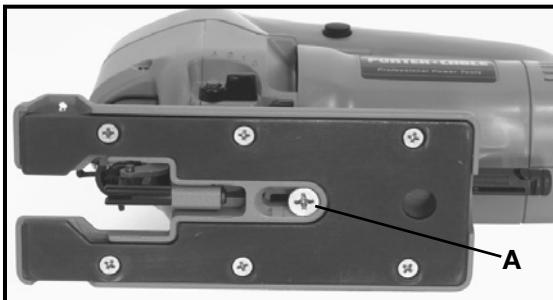

Fig. 9
NOTE: When using the anti-splinter insert, the base should be set to the forward most position, Fig. 9.
The base is set at its forward most position at the factory. The base can be adjusted to the rear for making flush cuts around walls and other similar areas. To move the base forward or backward, turn the saw on its side, loosen screw (A), Fig. 9, move the base to the desired position and retighten the screw.
NOTE: When making bevel cuts, the base should be set to the forward most position, Fig. 9.